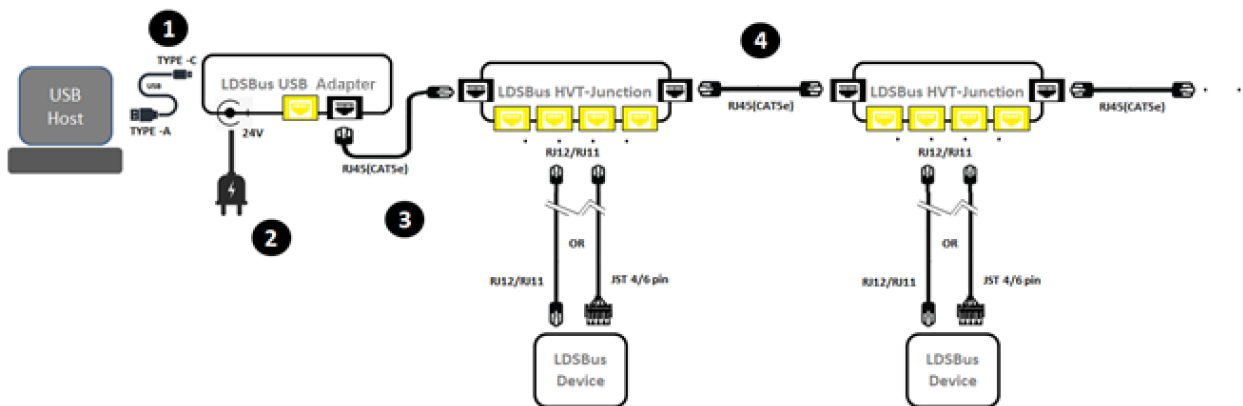

Figure 3 – LDSBus Creation
4. If there is more than one LDSBus HVT-Junction device, daisy chain them together as shown in Figure 3 using RJ45 (CAT5e) cable(s). The termination on the last LDSBus device must be set to the ON state.